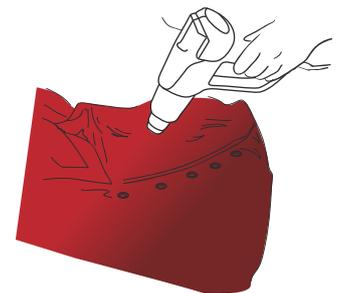

Figure 19
- › Next heat each rivet again to 80 to 90 °C (176 to 194 °F). (FIG. 19)